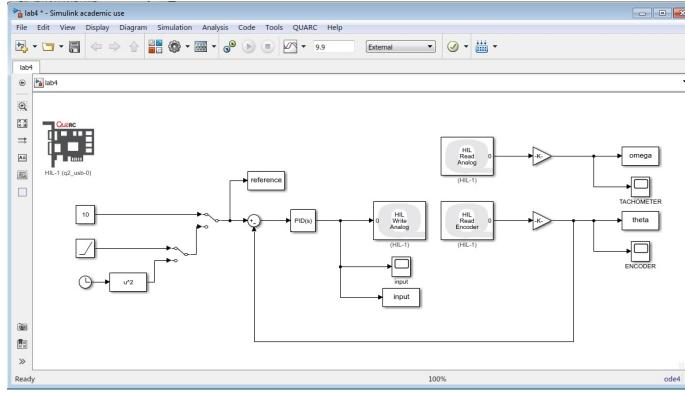

Figure 2.3: Simulink model for a DC Servo Motor system
3. Assemble (or modify an existing) a Simulink model according to Figure 2.3.